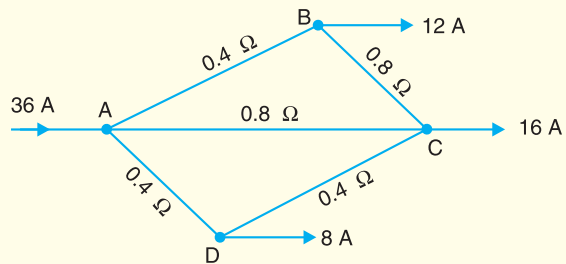

Fig. 13.47
3. In the d.c. network shown in Fig. 13.47,  $A$  is the feeding point and is maintained at 250 V. The resistances